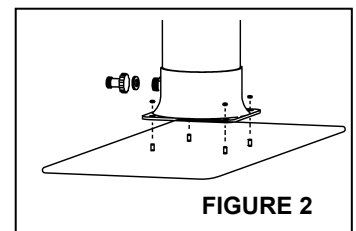

FIGURE 2
2. Use the main unit to mark the position of the mounting holes to be drilled into concrete/masonry for bolts. **SEE FIGURE 2.**